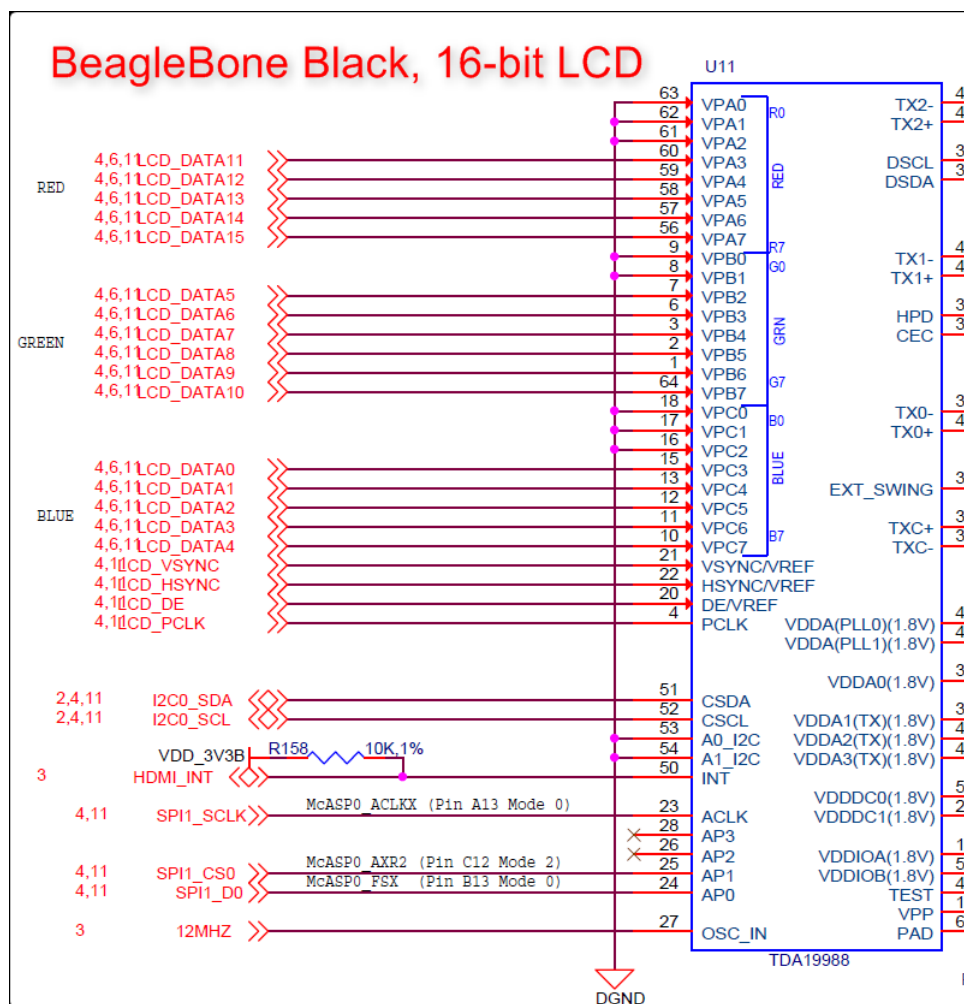

Figure 2. BeagleBone Black, 16-Bit LCD
- A good example of a 16-bit hookup comes from the BeagleBone Black that is shown in Figure 2. In this case, the other LCD pins were preserved for use by capes.